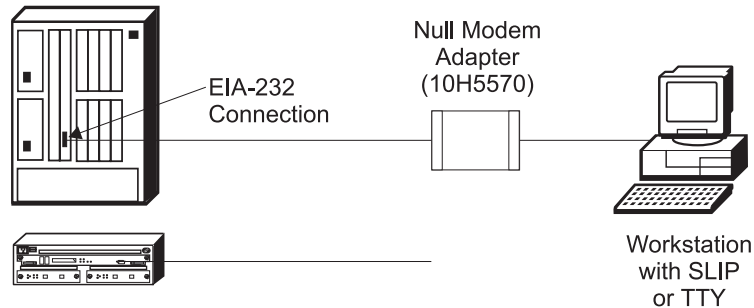
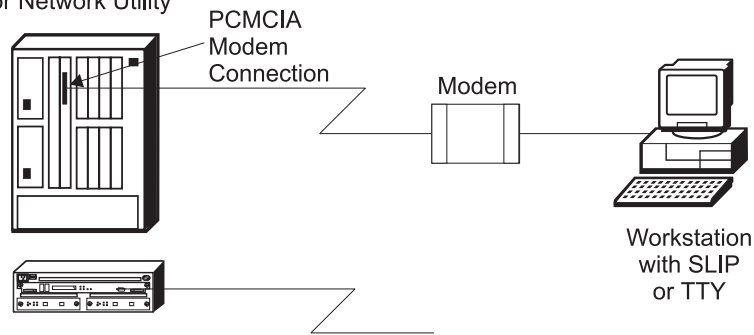

Figure 7-1. Local Workstation Serial Connection to the EIA 232 Port
Figure 7-2. Remote Serial Connection to the PCMCIA Modem
- Local connection through a null-modem cable attached to the EIA 232 service port (see Figure 7-1 on page 7-2). This type of connection uses the null-modem adapter and the two 9-to-25 pin serial cables that are supplied with this product.
- Remote dial-in (using telephone lines) through the PCMCIA modem (see Figure 7-2 on page 7-2).
Attach an ASCII terminal or emulator (with the appropriate emulation software) to provide local or remote access as shown in Figure 7-2 on page 7-2 and Figure 7-1 on page 7-2. DEC VT100 and DEC VT220 ASCII terminals are supported, as well as devices such as personal computer systems that are configured to emulate them.